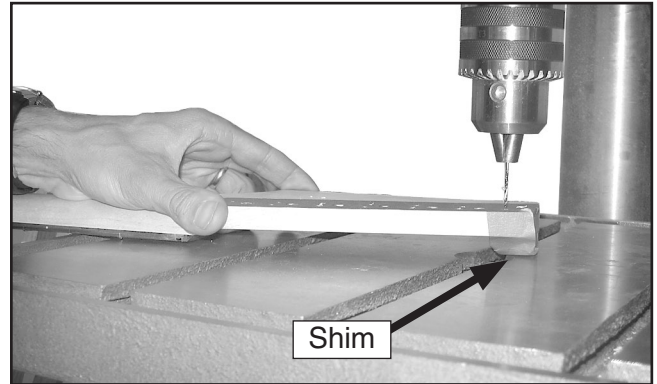

Figure 19. Peghead supported with shim.
5. Fasten a $\frac{7}{16}$ " thick wood shim with tape on the top side of the peghead near the tip (**Figure 19**). This will help stabilize the neck during the next step.
6. Using a $\frac{1}{16}$ " drill bit, drill $\frac{3}{8}$ " deep holes into the back of the peghead (**Figure 19**).